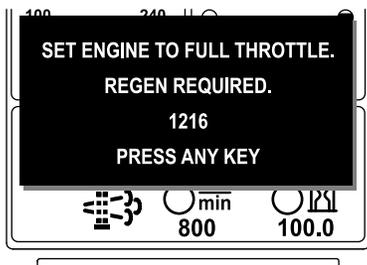

Figure 46
**Note:** If the engine exhaust temperature is too low, the InfoCenter displays ADVISORY #1216 (Figure 46) to inform you to set the engine to full throttle (high idle).